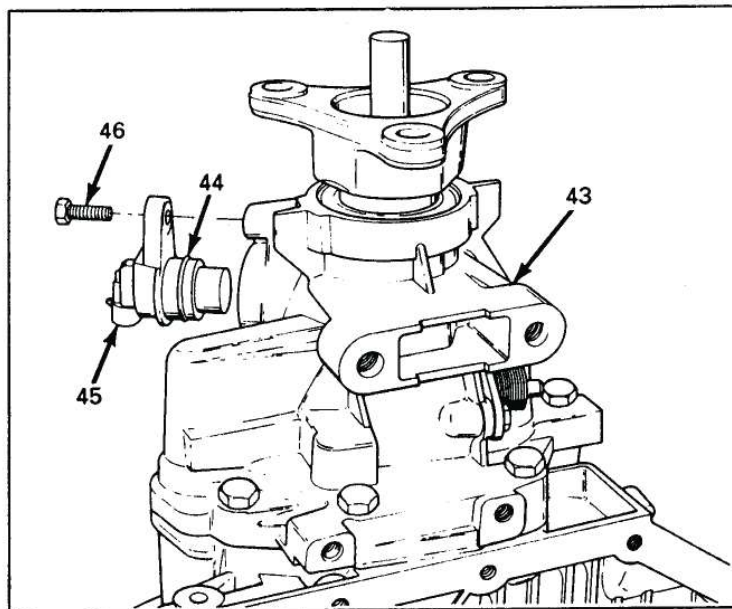

Figure 121
13. Install the speed sensor and "O" ring assembly into the extension housing, and secure with 10mm bolt (Figure 121).